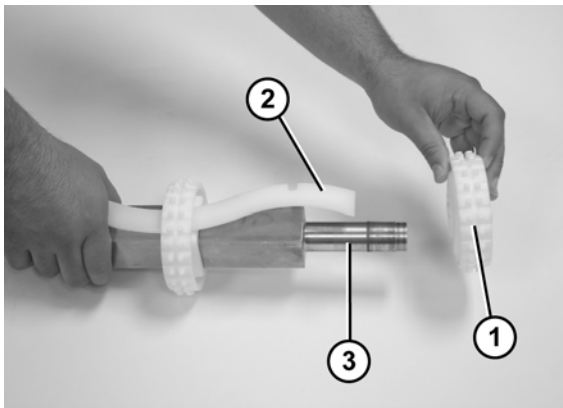

Figure 72
- Slide the sprockets (**Figure 72, item 1**) and the sprocket alignment bar (**Figure 72, item 2**) off the drive spindle (**Figure 72, item 3**).